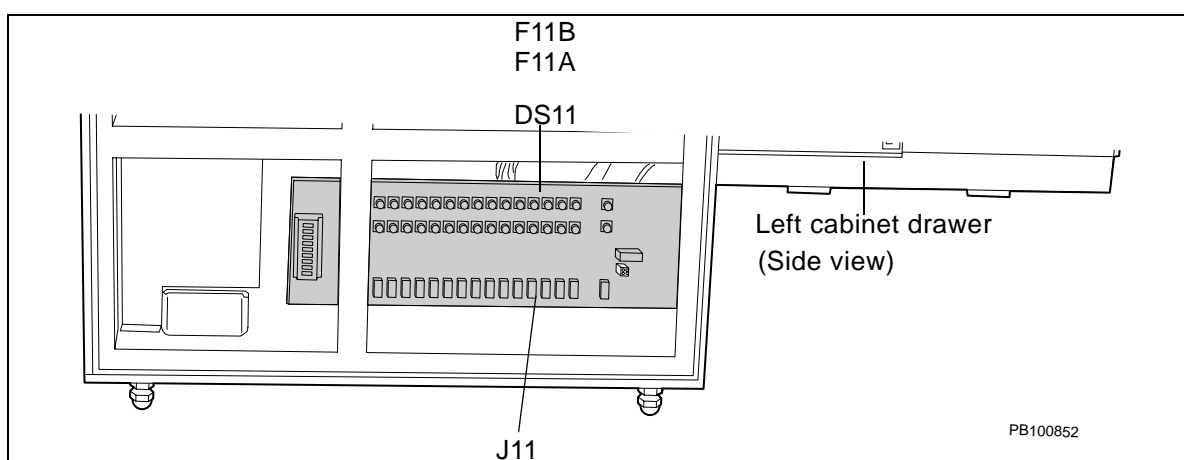

Figure 5-31 Multigauge Controller AC Distribution Board Connection and Fuses
- **Two fuses**—AC distribution board fuses F11A and F11B. The fuse OK indicator is DS11 (Figure 5-31).